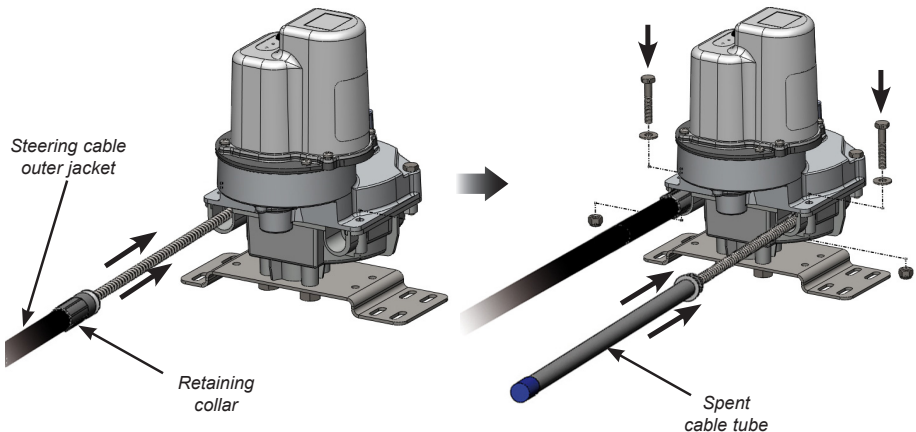

Fig B12 - Fitting steering cable and spent cable tube
- iii) Push the steering cable jacket into the port until the retaining collar butts against the drive housing (Fig B12). If required, the cable can be “driven” into the drive by powering up the clutch and drive.